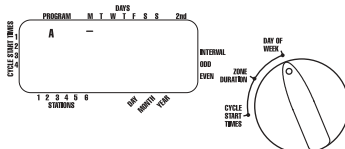

FIGURE 6: LCD Display with Watering Days
- Turn the rotary dial to **DAY OF WEEK** in program A. The display will show an "A" and the cursor will blink under the days of week Monday, Tuesday, Wednesday, etc. [See Figure 6].